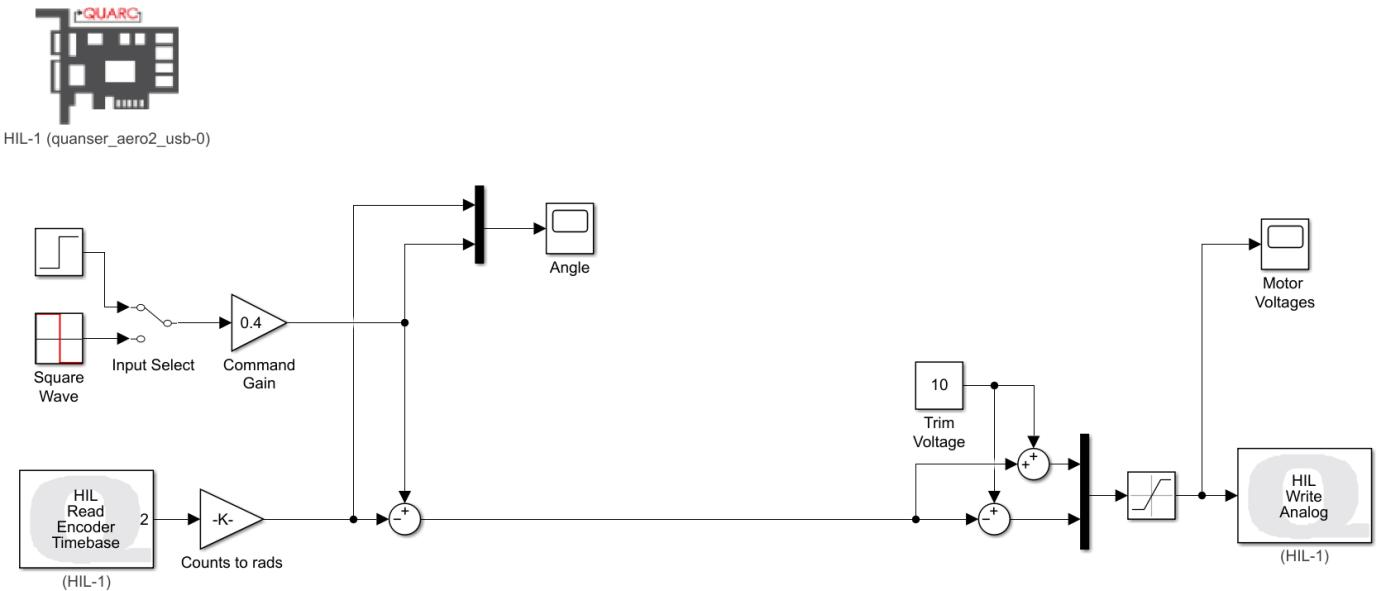

Figure 1: Unity-feedback block diagram
1. Open the q_aero2_qualitative_PID_Control.mdl via MATLAB. This should look similar to Figure 1. This model implements basic commands and unity feedback for the Aero 2. The inputted signal (either step or square wave) goes through a gain of 0.4 and is added or removed from a *Trim Voltage* of 10V that is applied to the thrusters. In this lab, we will implement a PID controller to learn how to achieve a desired steady-state given requirements.